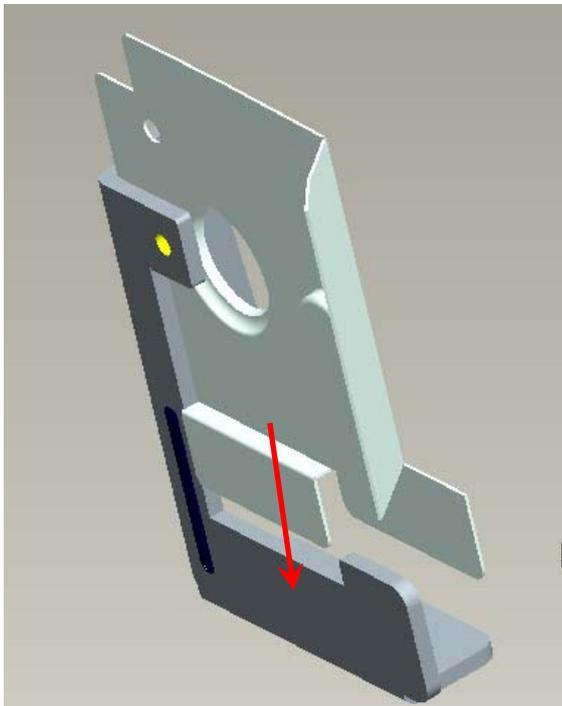

Fig. 2-1
2.1 Insert "CW Shield" and hook "BKT Link Lamp" (Fig. 2-1).